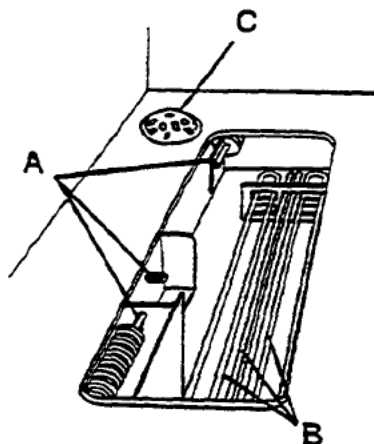

Figure 2-9. Pre-assembled Parts
4. When the unassembled parts package is removed, several pre-assembled parts can be seen inside the unit. Refer to figure 2-9. Do not attempt to remove these parts.